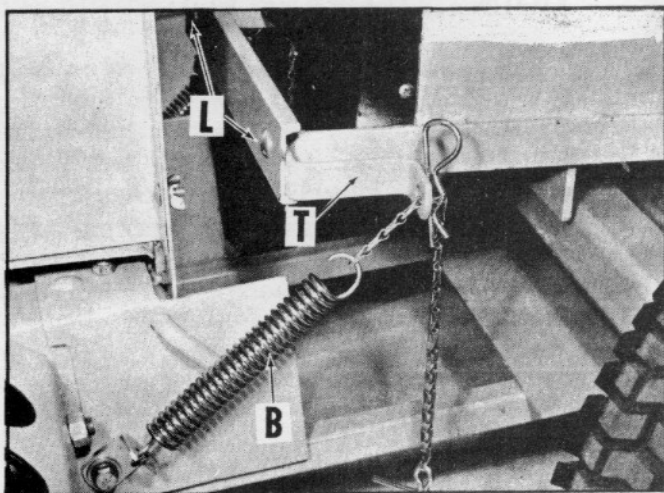

Fig. 20
Attach spring (B) to angle bracket on left side. On right hand side attach spring (B) to hole in lift bracket. Thread toggle chain through chain bracket and attach it to lift spring (B) as shown in (Fig. 20). Repeat procedure for opposite side of tractor. Raise Snow Thrower with tractor lift lever to highest position. Then pull toggle chain through angle bracket exerting slight pressure on the lift spring and lock into position by inserting hair cotter pin in lift chain.